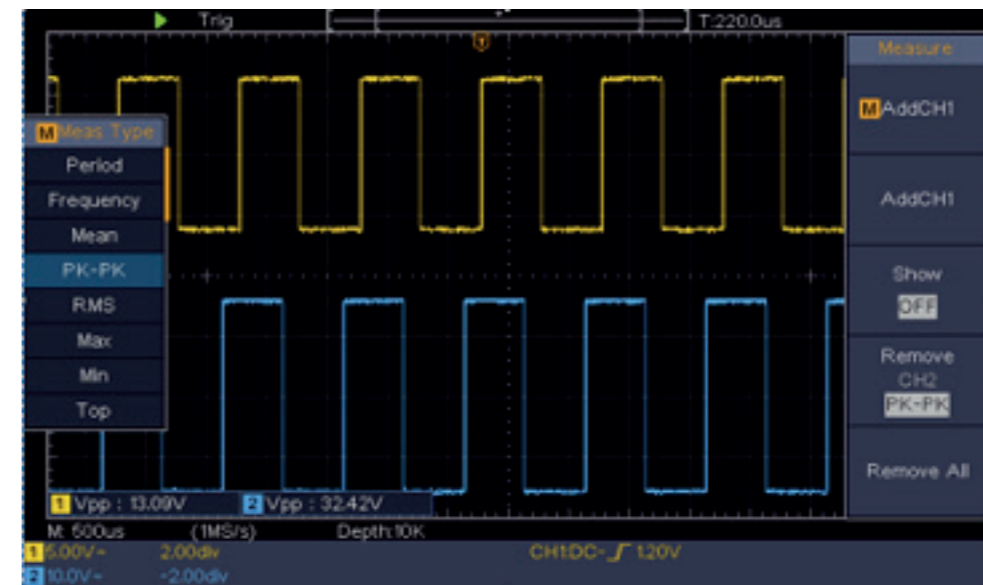

Figure 6-2 Waveform of Gain Measurement
7. Read the peak-to-peak voltages of Channel 1 and Channel 2 from the bottom left of the screen (see Figure 6-2).